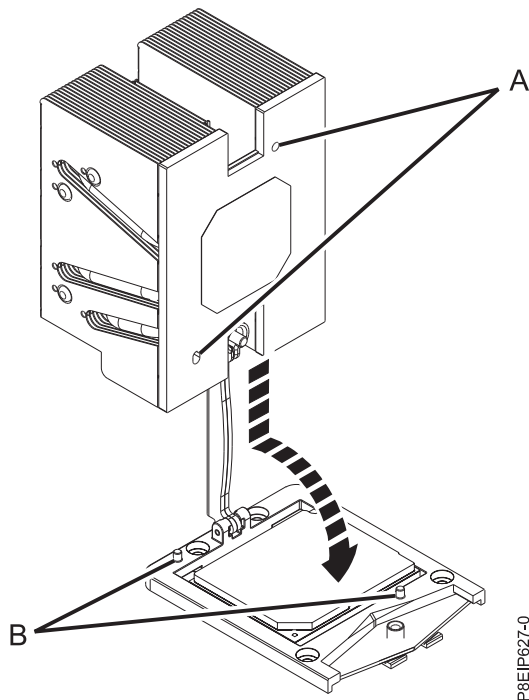

Figure 68. Installing the heat sink
10. Install the new supplied heat sink that is provided in the FRU kit. The TIM is pre-applied to the heat sink. Carefully lower the heat sink over the system processor module, passing the load arm through the heat sink. Ensure that the holes in the heat sink **(A)** align with the guide pins **(B)** on the socket, as shown in Figure 68.